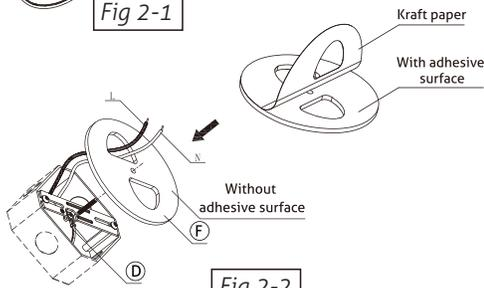

Fig 2-2
2. Remove the protective paper from the adhesive face of the EVA Gasket (**F**). Pull the power supply wires through the gasket opening. Adhere the EVA Gasket to the mounting bracket and outer edge of the round, surface mount junction box. (Fig 2-2).